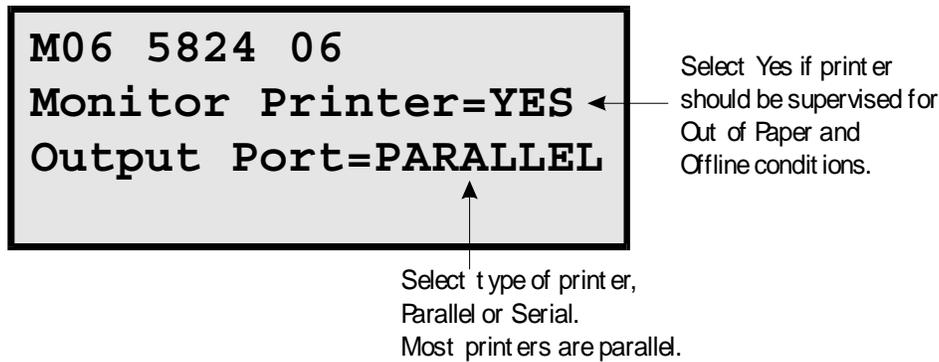

Figure 4-26 Selecting Printer and Output Port Options
5. Press **ENTER** **ENTER** to bypass the next two screens. A screen similar to the one shown in Figure 4-26 will display.